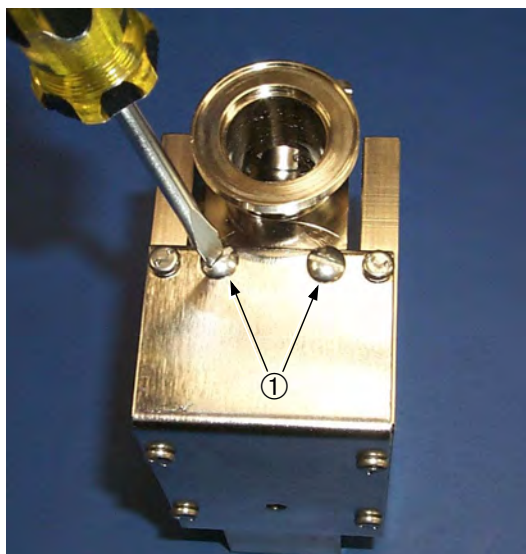

Figure 4-7 Magnet Assembly Slotted Screws
9. Remove the 2 slotted screws ① that mount the spectrometer tube magnet assembly to the spectrometer tube body (Figure 4-7).